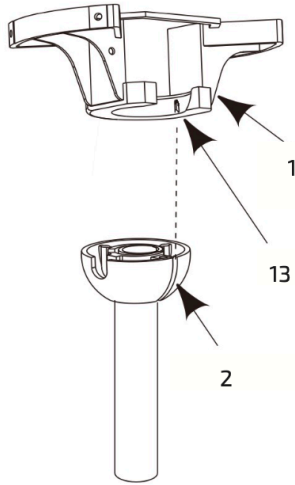

Fig. 9
2. Place the down rod (3) with the hanging ball (2) in the installation bracket (1), turn it all until the 'tab' on the installation bracket (1) is placed in the 'slot' of the down rod (3) and it is fixed properly. Fig. 9